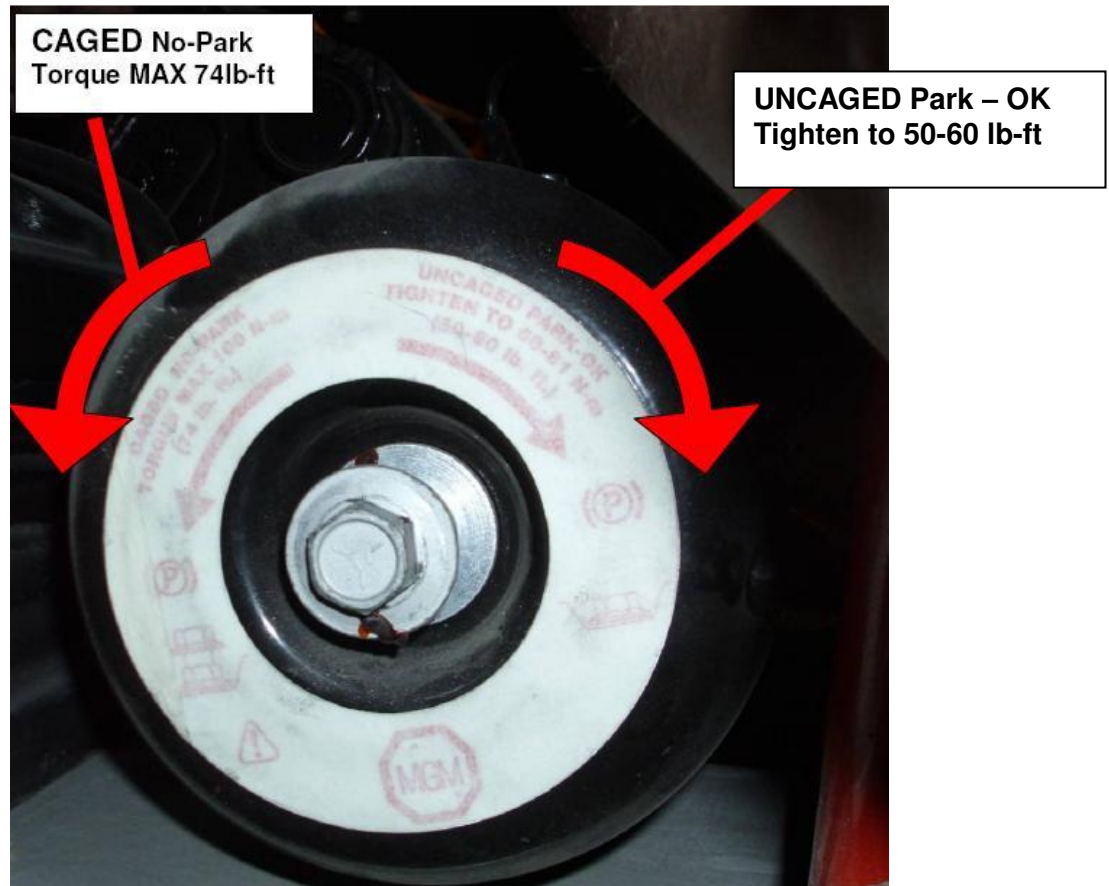

FIGURE 3: MGM CAGE & UNCAGE PROCEDURE
- b. Turn caging bolt counter-clockwise until it stops (approximately 22-23 turns). **Do not use air tools.** Do not exceed 74 ft-lbs. See Figure 3.
- b. Turn caging bolt clockwise until seated against head of brake chamber and tighten to 50-60 ft-lbs. **Do not use air tools.** Do not exceed 60 ft-lbs. See Figure 3.